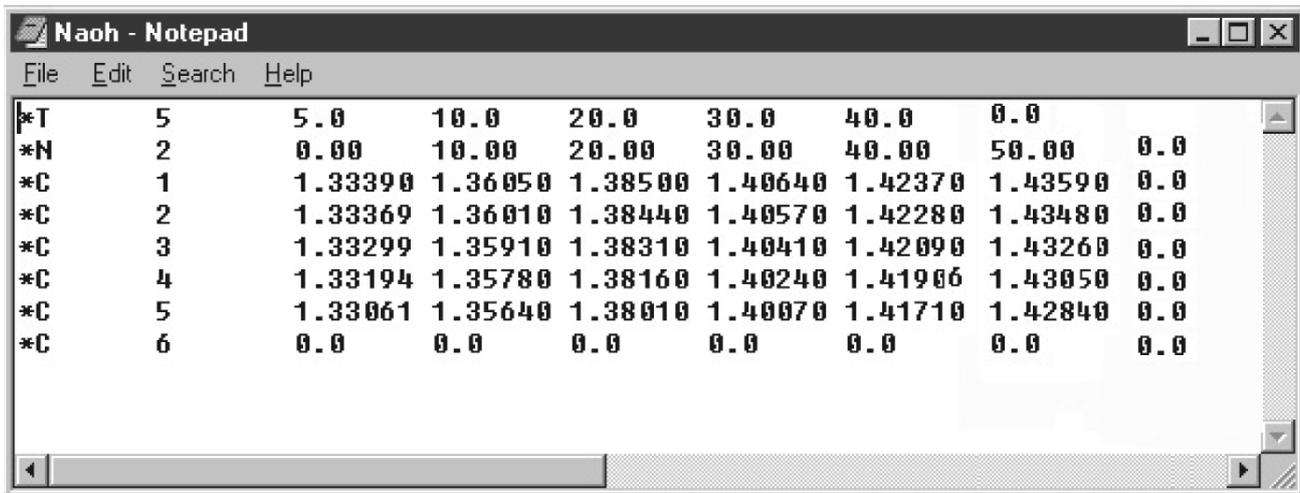

Fig. 11-16
- When completed, it becomes the screen of Fig. 11-16.
⑦ Once the data entry is complete (Fig. 11-16), save the file.